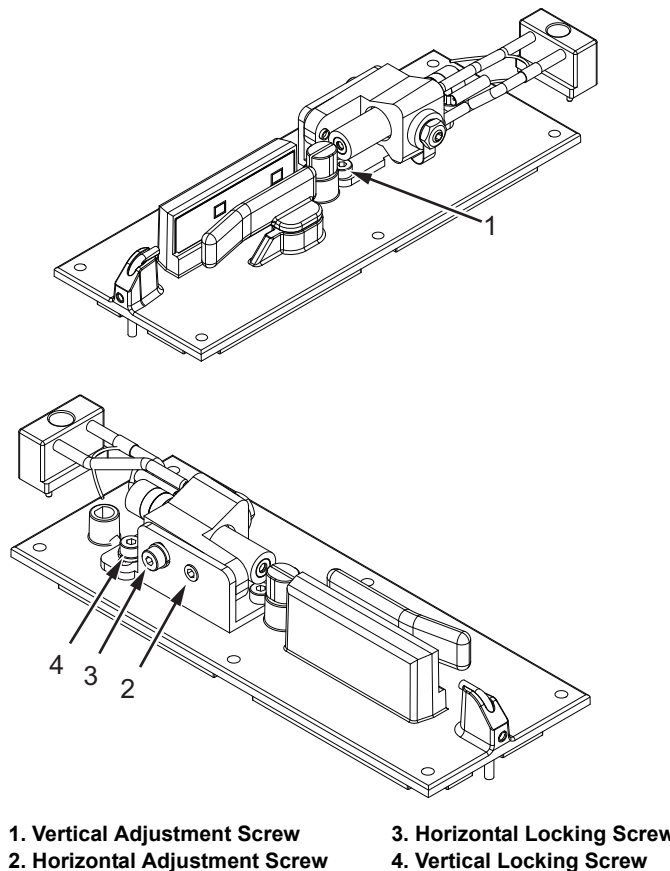

Figure 4-45: Printhead Adjustment Screw Location
- 6 Adjust the ink jet position, if necessary using the horizontal adjustment screws (item 2, Figure 4-45) and vertical adjustment screw (item 1).